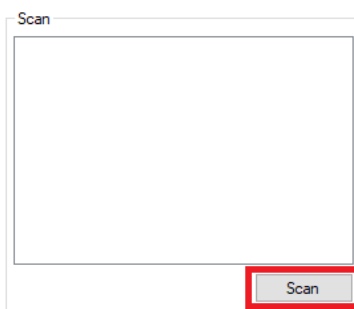

Figure 16: Station Mode - SCAN
2. Click the **Scan** button to scan APs. See Figure 16.